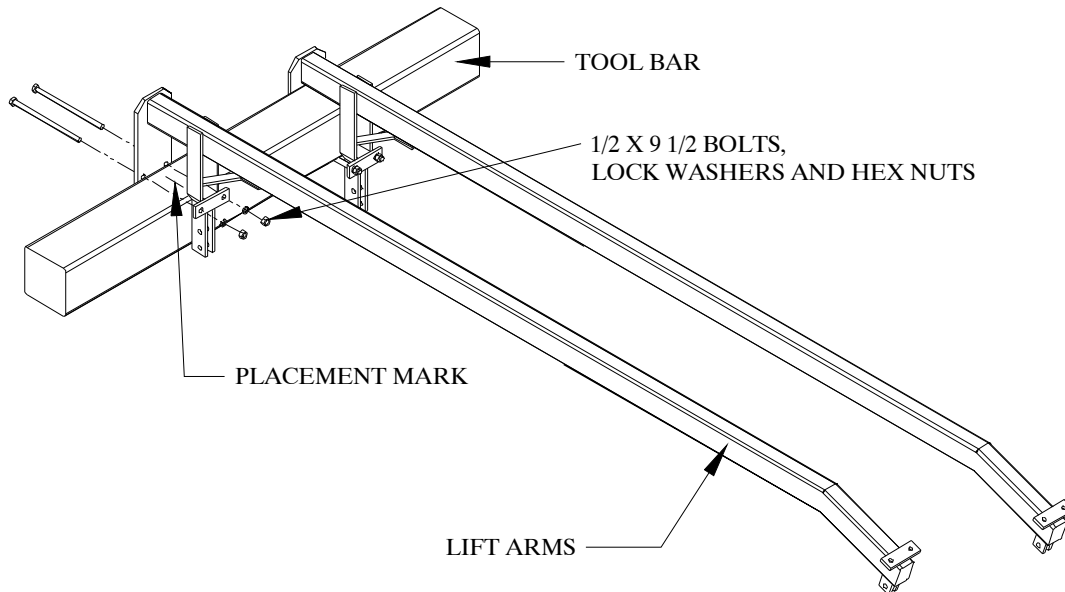

Figure 10
2. Center a lift arm on each of these marks and secure using two 1/2" x 9 1/2" bolts, lock washers, and hex nuts for each lift arm. Refer to Figure 10.